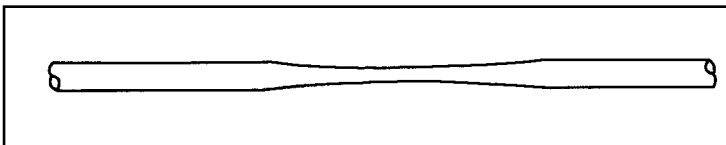

Figure 4
- “Necking”, a stretched cable sheath. See Figure 4.